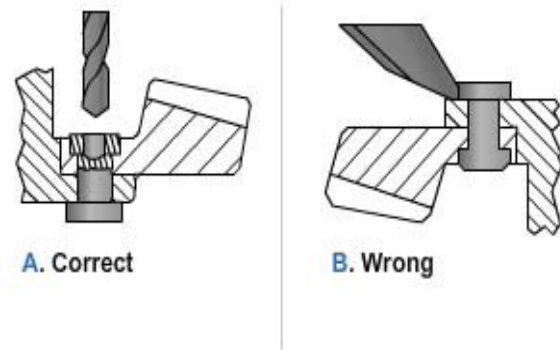

Figure 8-73 – Removing rivets on a ring gear.
- Drill each rivet head on the ring gear side of the assembly to a depth equal to the thickness of one rivet head. Use a drill bit that is 1/32-inch smaller than the body diameter of the rivets (*Figure 8-73*).